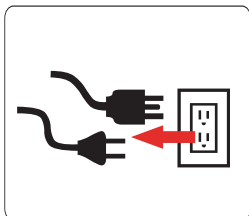

Fig 15
- All loads **MUST** be disconnected from the generator. Never start or stop the engine with electrical devices plugged in to the receptacles. (See fig 15)